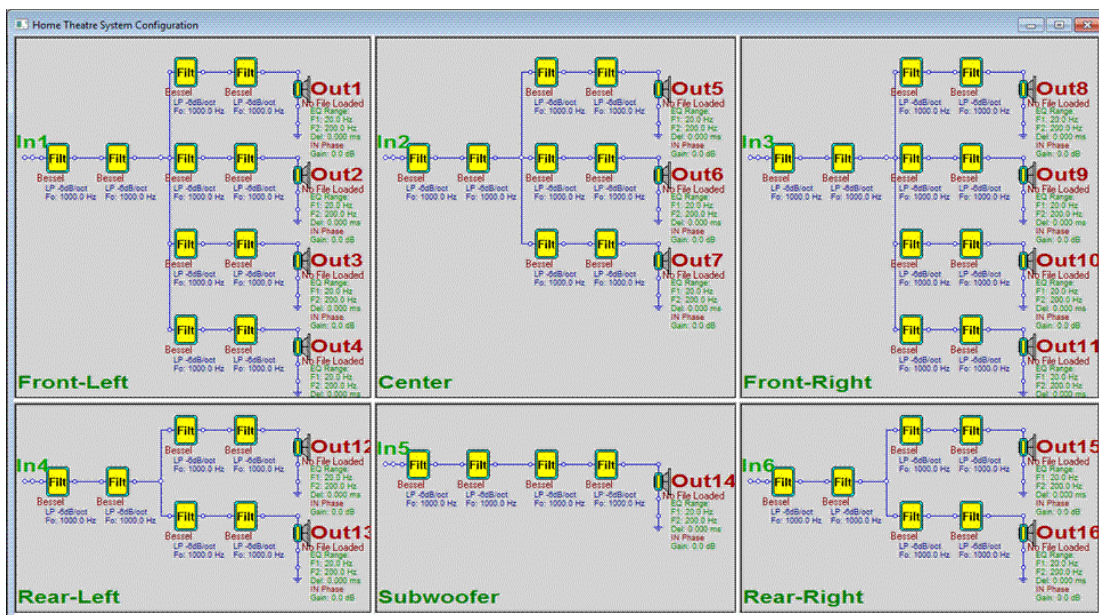

Figure 65. Home Theater 5 option.
- **Home Theater Option 5:** Front left and right speakers are 4-ways, center 3-way, rear surrounds 2-ways. Figure 65.